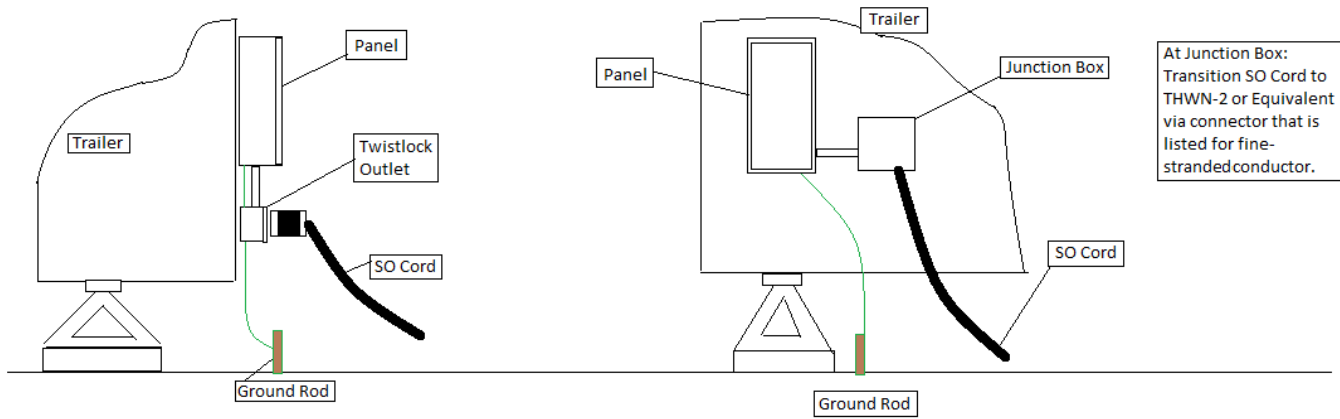

Figure CPA 011 – Suggested Connections to Panels when using Fine-Stranded Conductors
- See Figure CPA 011 for suggested connections to panels when using fine-stranded conductors.